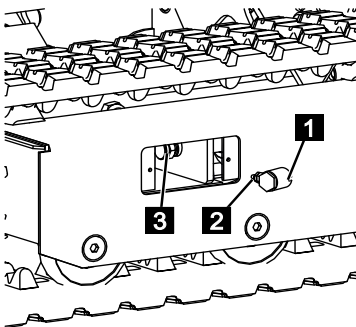

Fig. 232
4. Push the button head coupler (Fig.232/1) onto the grease tensioning cylinder (Fig.232/2) with the grease nipple (Fig.232/3) facing forwards.